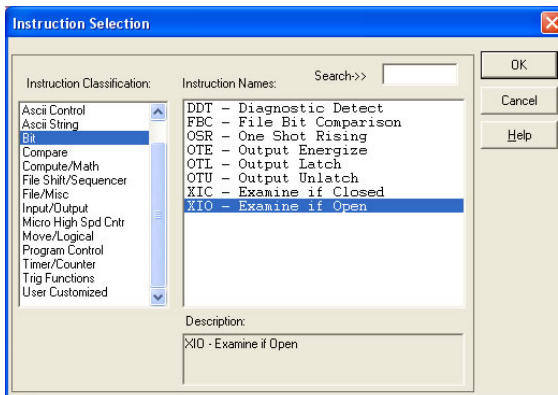

Figure 118: XIO Instruction Selection
- b) Select the "XIO" instruction from the "Bit" classification, then click OK. Refer to Figure 118.